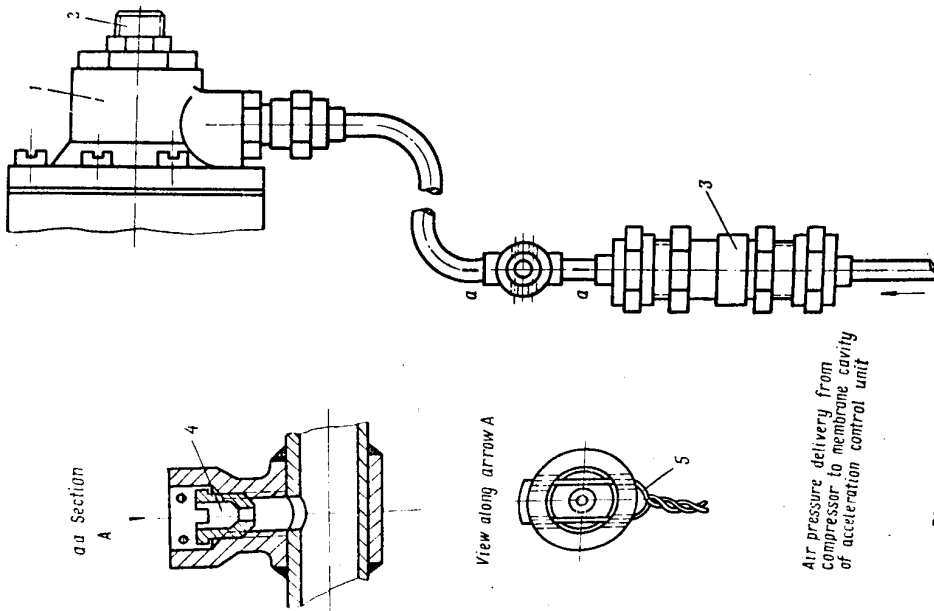

Fig.9. Air Supply to Acceleration Control Unit of HP-10A Pump
3. Unlock the screw of the HP-10A pump distributing valve spring (See Fig.7, a-a Section) and the screw of the acceleration control unit spring (See Fig.7, I-I Section); unlock the air bleed jet located on the pipe serving for air delivery to the acceleration control unit (Fig.9).
3. Unlock the screw of the HP-10A pump distributing valve spring (See Fig.7, a-a Section) and the screw of the acceleration control unit spring (See Fig.7, r-r Section); unlock the air bleed jet located on the pipe serving for air delivery to the acceleration control unit (Fig.9).
7. Turn the air bleed jet into the pipe serving for air delivery to the acceleration control unit (See Fig.9). Remove the pipe with the pressure gauge and blank off the pipe union of the HP-10A pump.